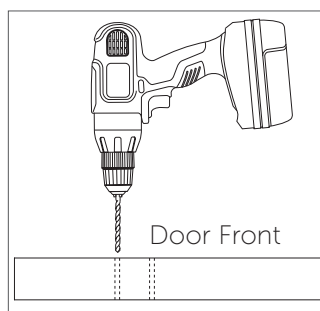

Figure 3
6. Drill two pilot holes all the way through the door for each hanger using a drill with an 1/8" drill bit (Figure 3).
5. Take the track down, drill out the marked holes using a drill with a 1/4" drill bit (Figure 3).